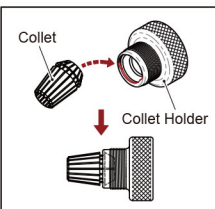

Fig. 2-1
4. Put the collet into collet holder by 45° angle. (Fig. 2-1)